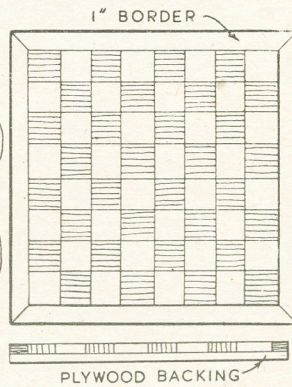

Fig. 4—The board with border
round. Glue it in place and while it is setting, prepare the border strips. These should be 1in. wide. Finally clean the edges of the Chess Board and mitre the border strips to fit and glue in place (Fig. 4). When all is set, level off the playing surface and either wax or french polish to suit. (135)